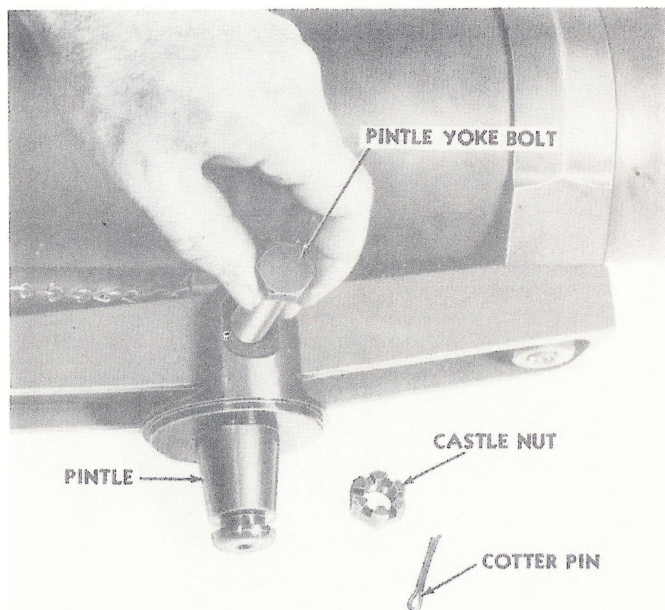

Fig. 23. Removing pintle.
g. Pinile yoke. To remove yoke, pull out cotter pin from castle nut, unscrew castle nut, and slide out bolt (fig. 23). To replace yoke, reverse procedure for removal.